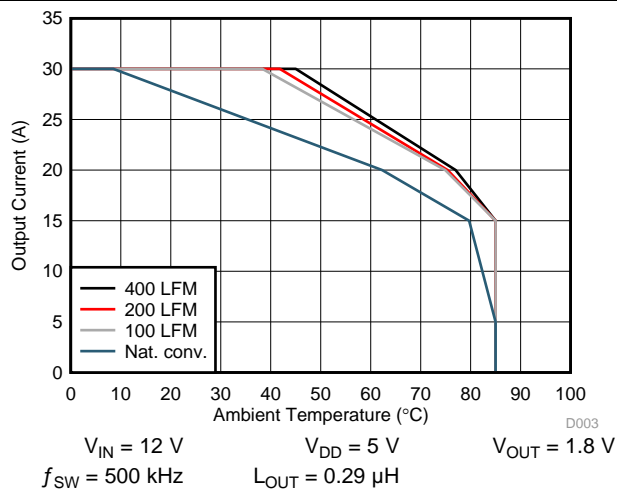
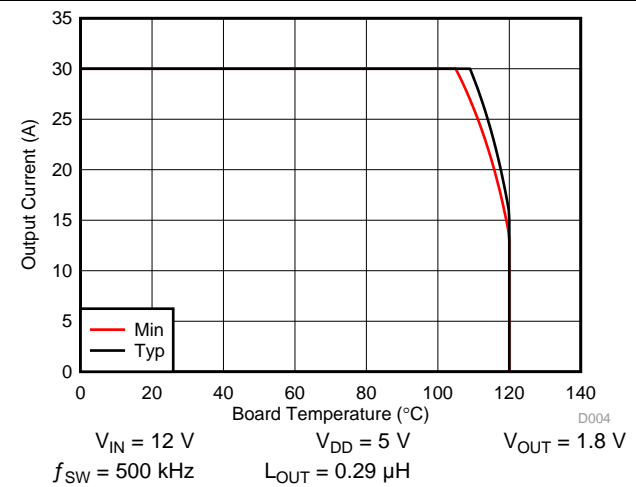

Figure 6. Safe Operating Area – PCB Horizontal Mount
Figure 7. Typical Safe Operating Area
$T_J = 125^\circ\text{C}$, unless stated otherwise. The Typical CSD97396Q4M System Characteristic curves (see Figure 6 and Figure 7) are based on measurements made on a PCB design with dimensions of 4.0" (W) \times 3.5" (L) \times 0.062" (T) and 6 copper layers of 1 oz. copper thickness. See System Example for detailed explanation.
The SOA curves in the CSD97396Q4M datasheet give engineers guidance on the temperature boundaries within an operating system by incorporating the thermal resistance and system power loss. Figure 6 and Figure 7 outline the temperature and airflow conditions required for a given load current. The area under the curve dictates the safe operating area. All the curves are based on measurements made on a PCB design with dimensions of 4.0 inches (W) \times 3.5 inches (L) \times 0.062 inch (T) and 6 copper layers of 1 oz. copper thickness.